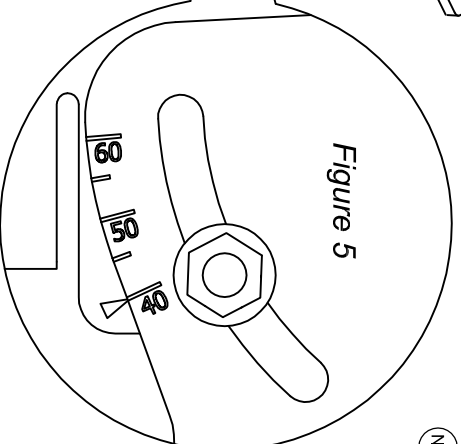

Figure 5
STEP 5 - Align the satellite dish to the satellite by adjusting the Elevation, Azimuth & Skew angles. Refer Figure 5 for graduations for Elevation Angle. Refer the graduations on the top of the LNB for skew angle & a magnetic compass for azimuth. Tighten all nuts when correctly aligned.